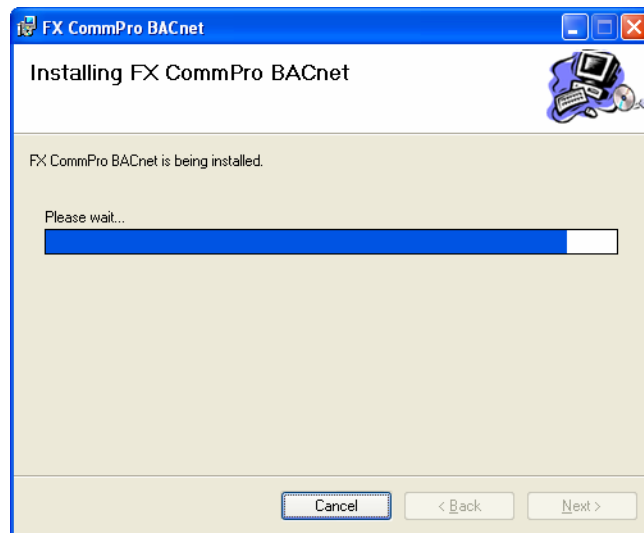
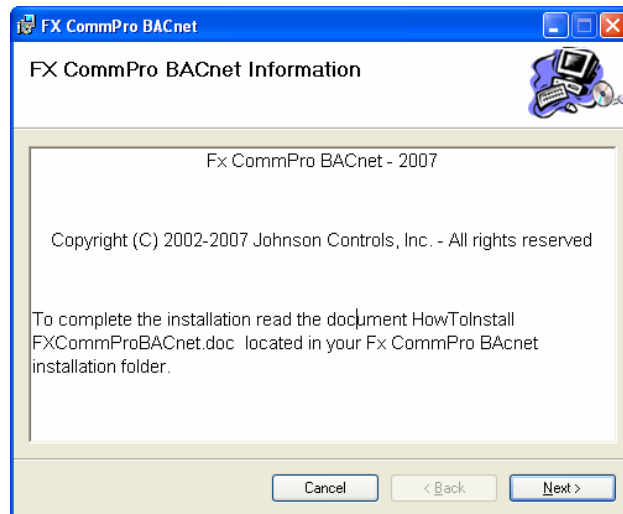

Figure 5: Installing FX CommPro BACnet Window
Figure 6: FX CommPro BACnet Information Window
8. Click Next. The Installing FX CommPro BACnet window displays the progress of the installation (Figure 5). The FX CommPro BACnet Information window appears (Figure 6).